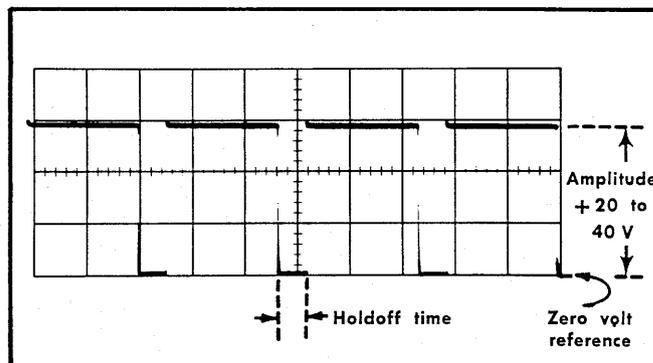

Fig. 5-6. Typical test oscilloscope display of the +GATE output signal. Time/cm = 10 μ SEC.
d. Check—Waveform amplitude of 20 to 40 volts and holdoff time (lower portion of the square-wave display) as specified in Table 5-4. See Fig. 5-6.
- Check—Waveform amplitude and holdoff time. See Fig. 5-6.